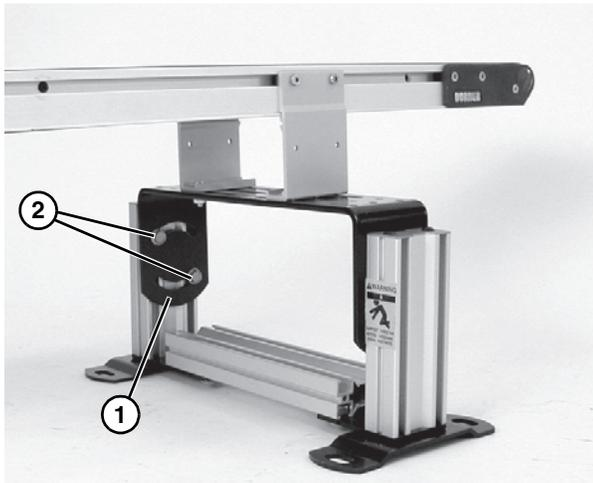

Figure 14
1. Loosen mounting bracket (Figure 14, item 1) flange head hex screws (Figure 14, item 2).
2. Raise or lower mounting bracket (Figure 14, item 1) to the required height.
<p>Failure to secure screws (Figure 14, item 2) may cause conveyor sections to drop down causing severe injury. TIGHTEN SCREWS (Figure 14, item 2) AFTER ADJUSTMENT.</p>
3. Tighten flange head hex screws (Figure 14, item 2) to 150 in-lb (17 N-m).